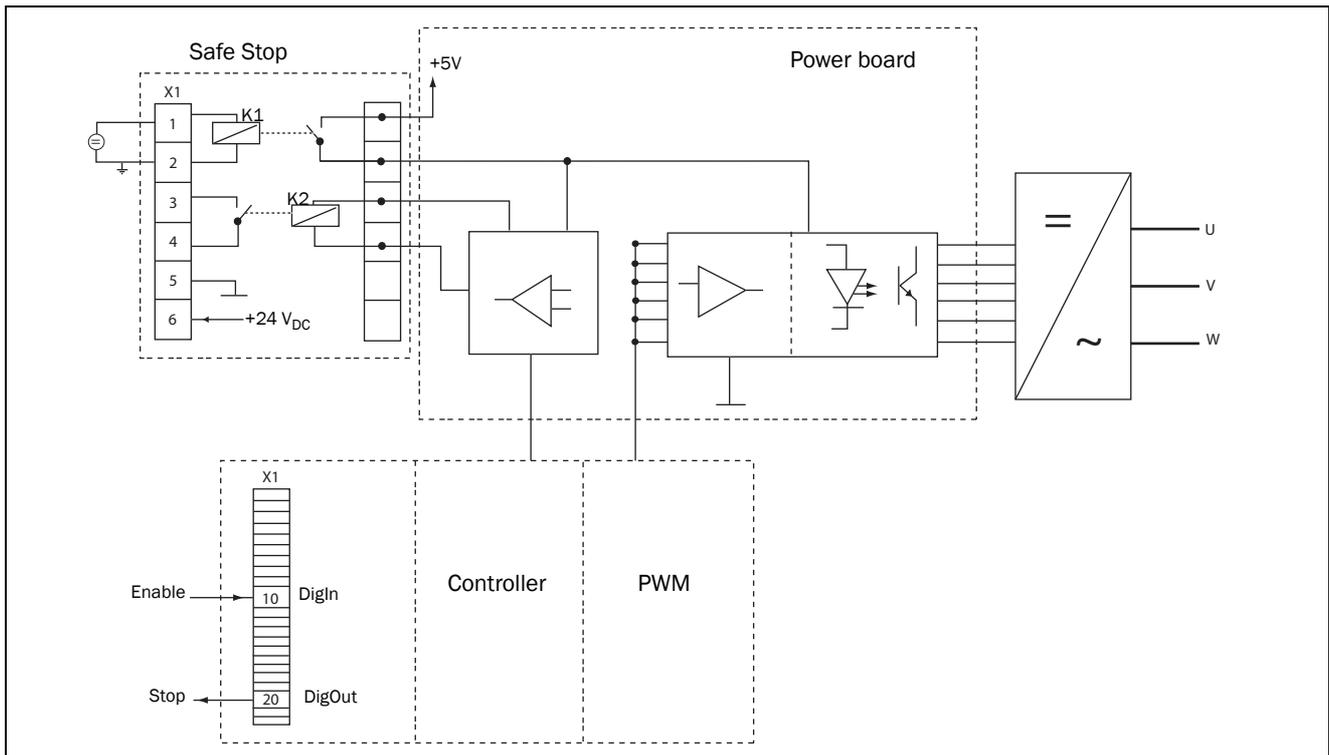

Fig. 113
- "Inhibit" input, terminals 1 (DC+) and 2 (DC-) on the Safe Stop option board should be made active by connecting 24 VDC to secure the supply voltage for the driver circuits of the power conductors via safety relay K1. See also Fig. 113.
- High signal on the digital input, e.g. terminal 9 in Fig. 113, which is set to "Enable". For setting the digital input please refer to section 11.5.2, page 115.
To monitor the "Enable" function, the selection "RUN" on a digital output can be used. For setting a digital output, e.g. terminal 20 in the example Fig. 113, please refer to section 11.5.4, page 120 [540].